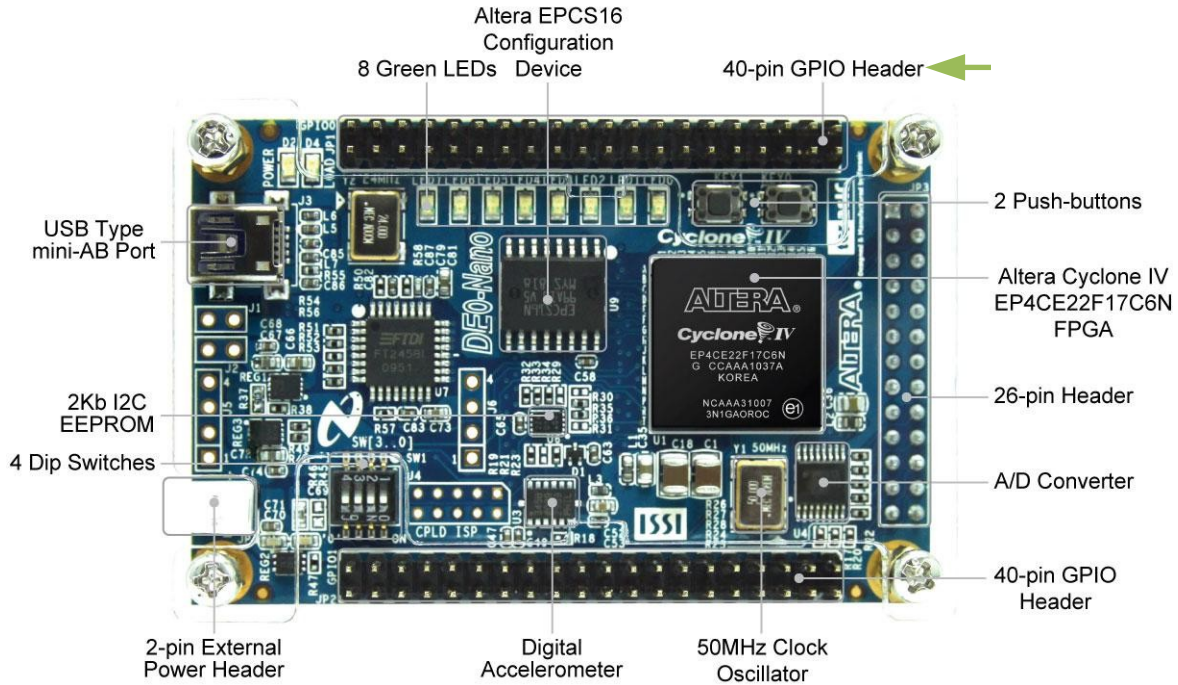

Figure 4: DE0-NANO Board Orientation and Numbering
2.2. In order to be able to connect to the board you will need to assign pins to the proper expansion header on your board. Familiarize yourself with the orientation and numbering convention of the board, shown in Figure 4. Consult Tables 3 and 4 for pin numbering and names.